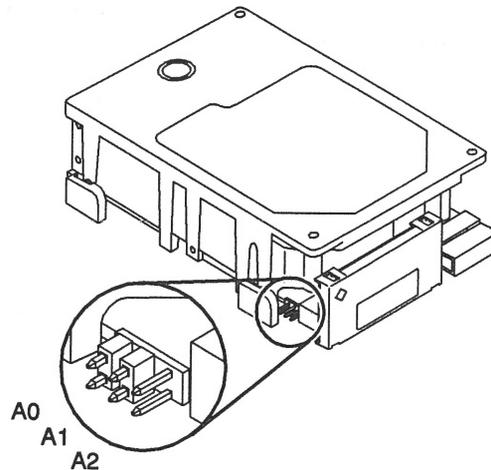

Figure 3-7 Drive Position 0 Jumper Settings
The three sets of jumper blocks on the 1.05 Gbyte hard disk drive are located on the sides and underside of the drive. Two of the blocks are indicated below. The third block, which is located on the backside of the drive and is not shown in Figure 3-7, is without any jumpers and you must not add any to it.
- a. If you are going to install a drive in position 0, compare the device address jumper settings to the settings shown in Figure 3-7. If the settings are the same as in the figure, leave them as they are.